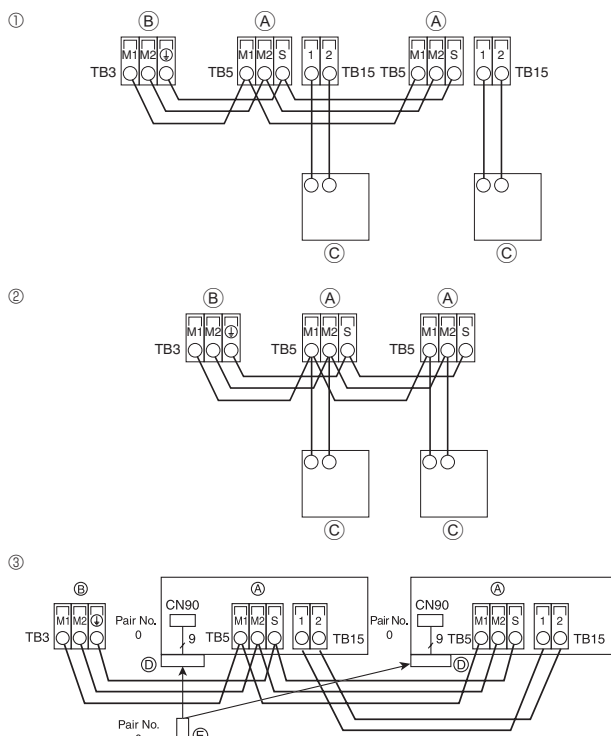

Fig. 6-3
6.4. Connecting remote controller, indoor and outdoor transmission cables (Fig. 6-3)